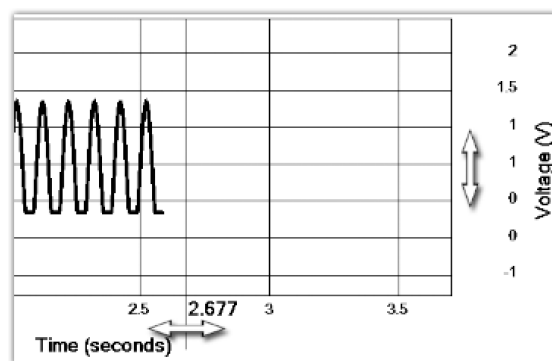

Figure 4: Graph scaling options.
To change the time scale on a graph of any channel (see Figure 4), click on a space just above the Time (seconds) caption and drag horizontally (left or right). Similarly, to change the voltage scale, click on a space left to the Voltage (V) caption and drag vertically (up or down).